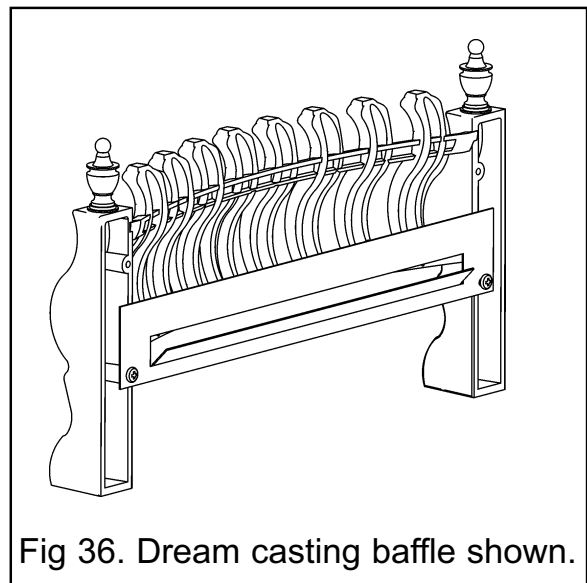

Fig 36. Dream casting baffle shown.
2. Locate the screen in place as demonstrated in figure 36 and the fret assembly instructions for Trueflame models. Using the two screws supplied, secure the screen in place. (Dream/Masquerade/Excelsior & Trueflame only).